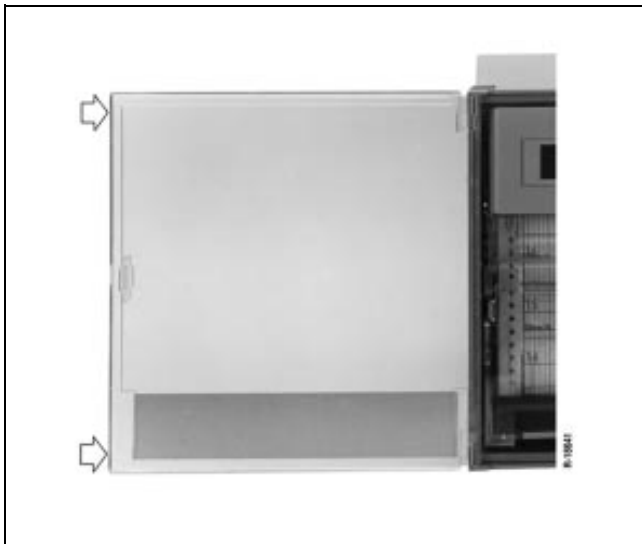

Fig. 19 Replace moulded door
2. Press successively against the top and the bottom of the narrow side of the door (see fig. 19), until the door hinge is out of its engage.